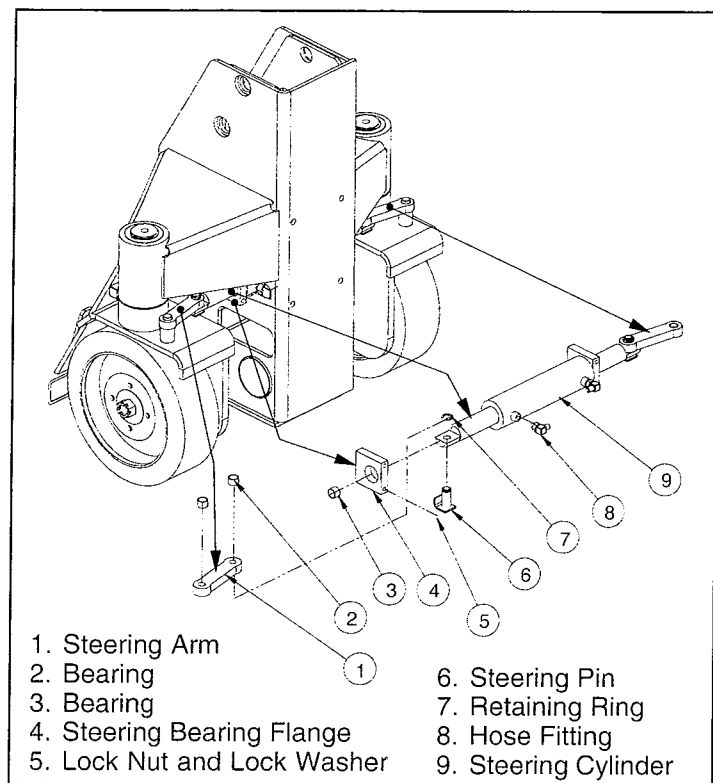

Figure 3-14: Steering Cylinder Installation
1. Referring to Figure 3-14, position the drive motor in the motor mount and secure with capscrews and locknuts. Torque to 75 ft.lbs. (102 N-m).
## 3.12 Steering Cylinder (Figure 3-14)